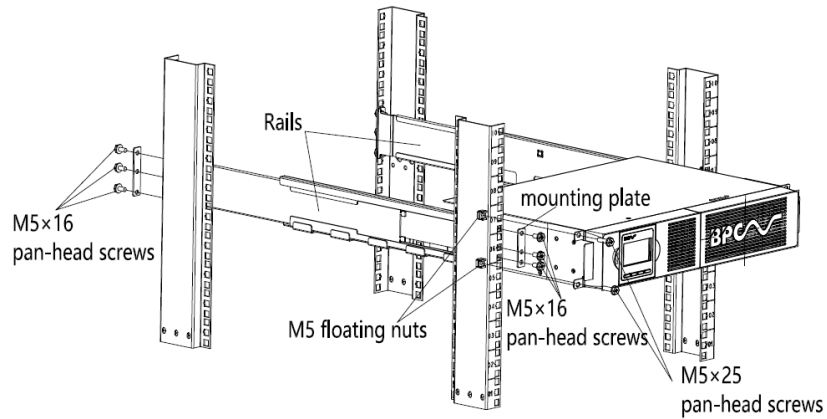

Figure3.1 Securing the rails to the rack
- a. Assemble the left and right rails to the rear rails as shown in Figure 3.1. Do not tighten the screws.